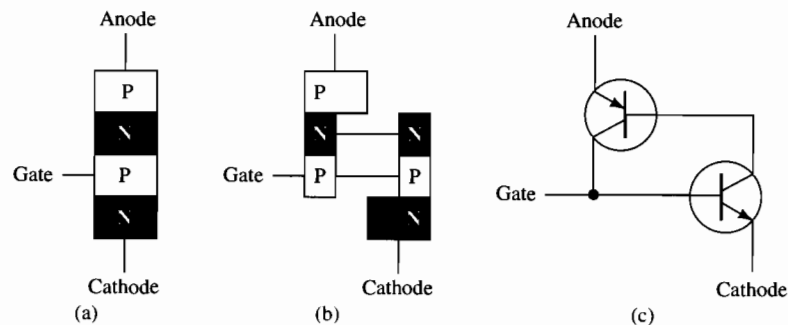

Figure 36–1
Thyristors are a class of semiconductor devices consisting of multiple layers of alternating P and N material. They are bistable devices that use either two, three, or four terminals to control either ac or dc. Thyristors are primarily used in power-control and switching applications. A variety of geometry and gate arrangements are available, leading to various types of thyristors such as the diac, triac, and silicon-controlled rectifier (SCR). In this experiment, you will investigate an SCR. It is one of the oldest and most popular thyristor. It is a four-layer device and can be represented as equivalent PNP and NPN transistors, as shown in Figure 36–1.
2. Construct the transistor latch shown in Figure 36–2. The purpose of C_1 is to prevent noise from triggering the latch. The switch can be made from a piece of wire. Set R_2 for the maximum resistance and close S_1 . The LED should be off. Measure the voltage across the latch shown as V_{AK} (off state). (V_{AK} refers to the voltage from the anode to cathode.) Enter the measured voltage in Table 36–2 under Transistor Latch.
5. For the circuit of Figure 36–4, what effect on the voltage waveform measured across R_4 would you expect if the holding current for the SCR were higher?
The trigger control circuit of an SCR can be controlled by a light-sensitive detector such as a photocell. Operate the circuit shown in Figure 36–3 from a sine wave source. Replace R_3 with a photocell (Radio Shack 276-116 or equivalent). Then put R_3 back and replace R_2 with the photocell. Summarize your findings in a laboratory report. There are various resistive sensors on the market for temperature, moisture, and so forth. Can you think of other potential applications for this circuit?